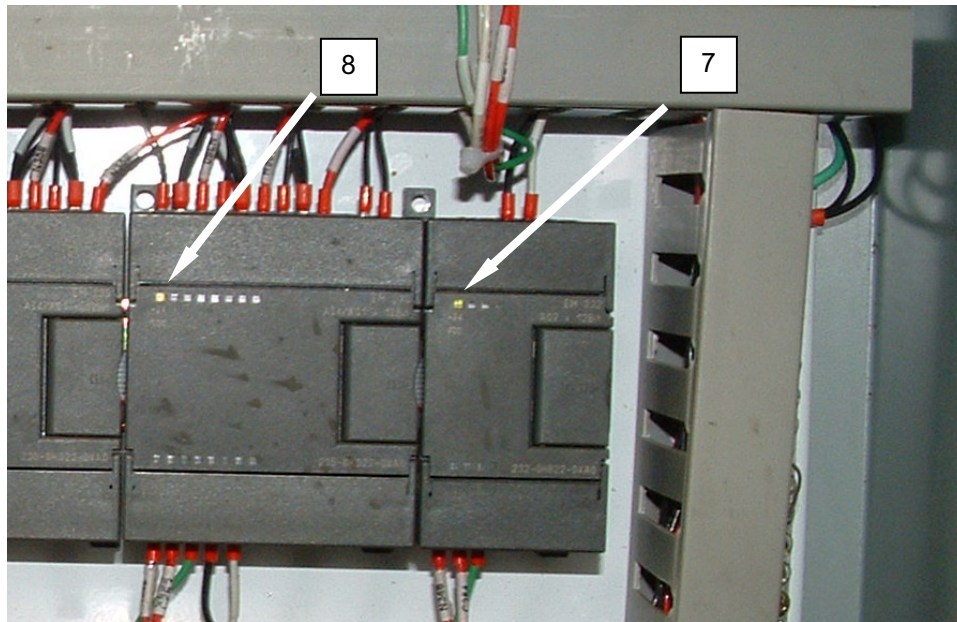

Figure 8. Test Analog Output Module.
2. Ensure PLC is ON, and check the power indicator LED (**Figure 8, Item 7**) on the Analog Output Module.
3. If the power indicator light is off, check the power indicator light (**Figure 8, Item 8**) on the Analog Input/Output module adjacent. If the power indicator light on the adjacent module is ON, replace the Analog Output module.
4. If the power indicator LED (**Figure 8, Item 7**) is ON, check for power at the Actuator Valve No. 1 (**Figure 9, Item 9**). This can be confirmed by manually setting the actuator either fully open or fully closed and operating the Water Treatment System. A correctly functioning Analog Output Module will automatically correct the flow setting at the valve.